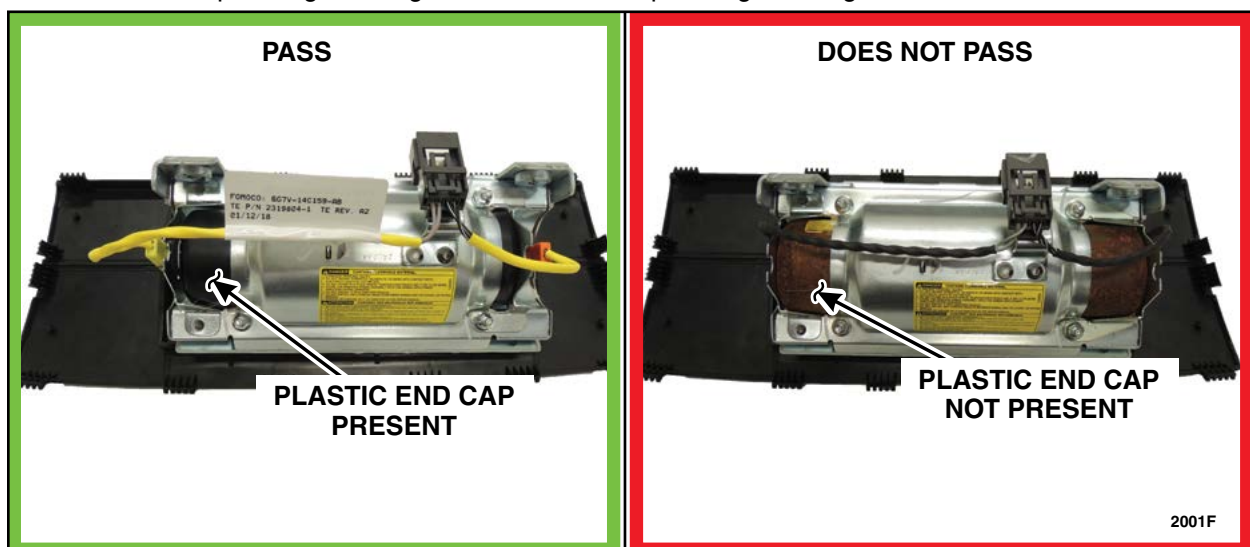

FIGURE 5
3. Inspect the passenger airbag inflator end for the presence of a plastic end cap as shown in Figure 5. Is the plastic end cap present on the airbag inflator?